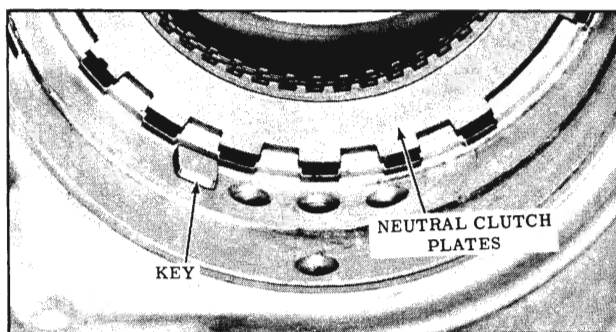

Fig. 3-47 Case Support Key
15. Remove the case support key from the transmission case. (Fig. 3-47)
16. Remove the neutral clutch plates (4 drive composition and 4 driven steel) and clutch backing plate from transmission case. (Fig. 3-47)